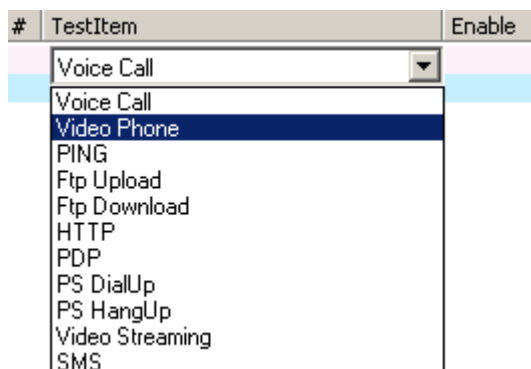

Figure 6-23 UE test item
- 4) Choose a test item, as shown in Figure 6-23, Figure 6-24, and Figure 6-25.